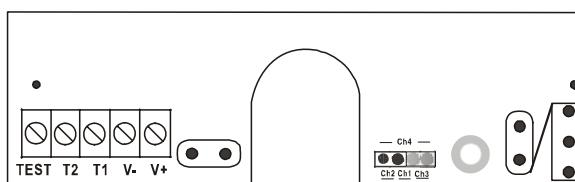

Fig 9 Transmitter connection
6. Channels Setting: Optional components, the microwave barrier works only when T&R are set in the same frequency, M200MT has 4 frequencies (CH1, CH2, CH3, CH4) for option, can be set by jumper, very easy to use. See fig. 9, 10.
#### Transmitter wiring connection (as fig. 9):